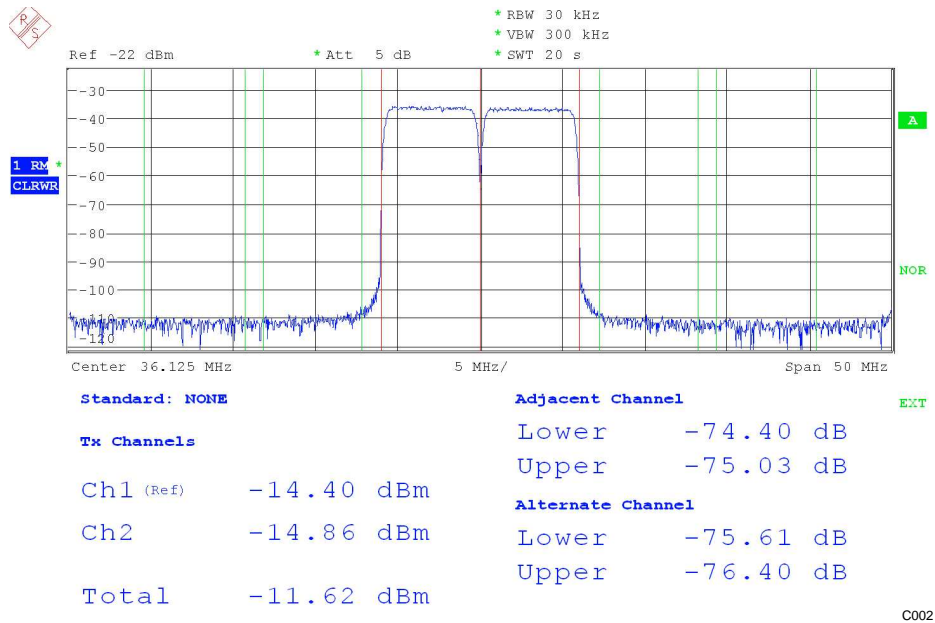

Figure 79. Two QAM256 Carriers With at 36-MHz IF
**Table 18. Signal and System Properties for Complex IF System Example in Figure 79**